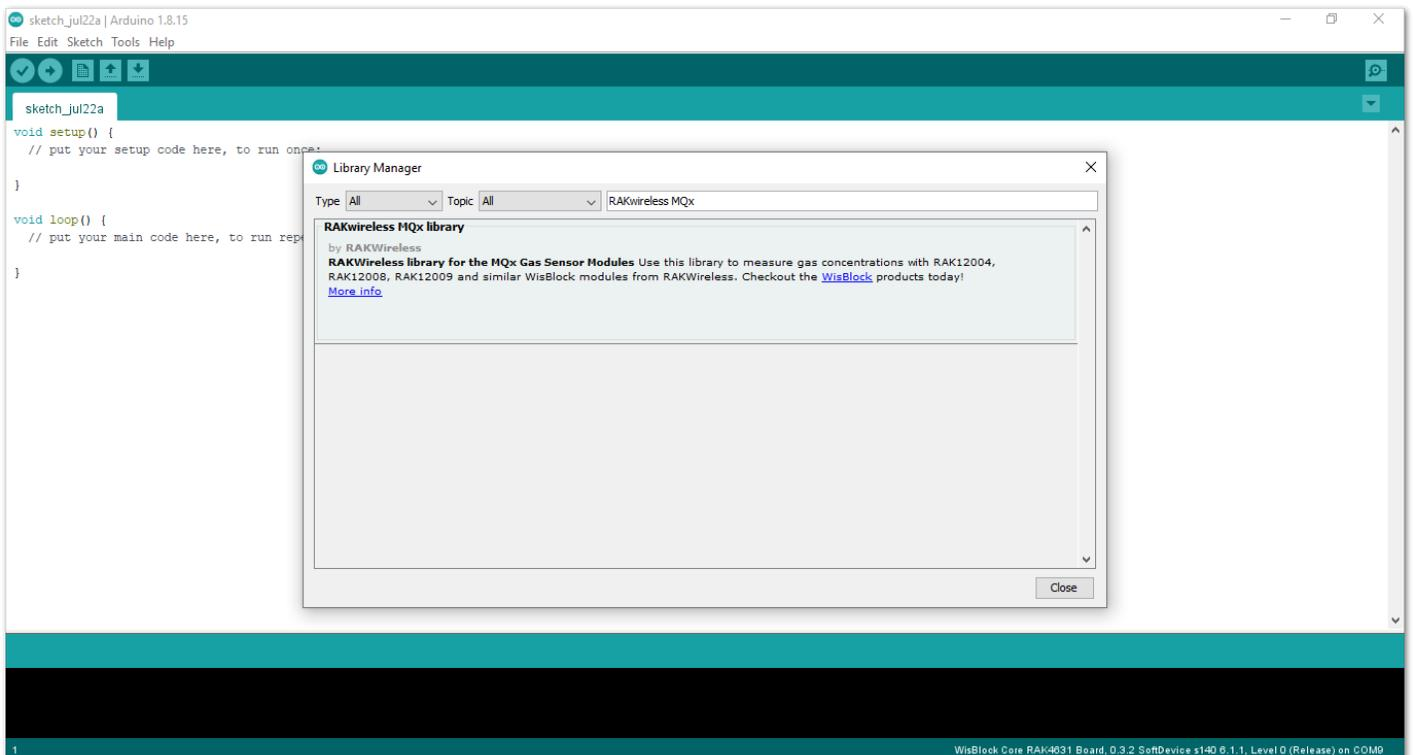

Figure 9: Arduino Library Manager
4. On the Arduino IDE, select **Sketch -> Include Library -> Manage Libraries**, as shown in **Figure 9**.